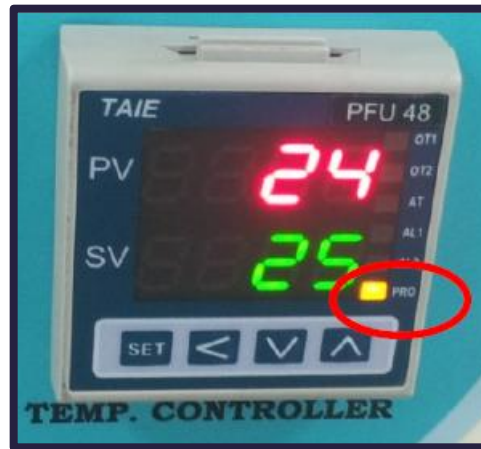

Figure. 10
8. Start the program by clicking on up arrow “^”; ensure this by confirming that “PRO”LED is flashing. Stop the running program at any instant by clicking on down arrow “v”, if required. Ensure program is stopped by confirming the “PRO” LED is glowing, but NOT flashing (Figure. 10).